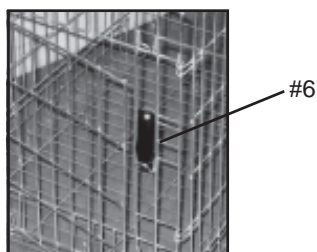

Figure 5
5. Familiarize yourself with the Spring Plastic Hook Latch (#6) before placing animal in Wire Pet Cage (#1). Close Door (#7). Hook Latch (#6) points down. To lock and unlock, push black Hook Latch, lift up and drop in place. Reverse to unlock. Always check to make sure Door is properly closed and locked. (See Figure 5, 6 , 7).